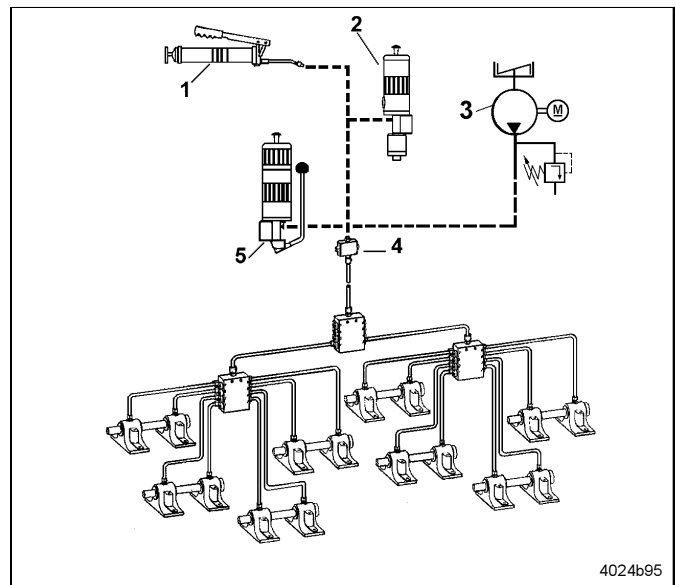

Fig. 13 Possible pump connections
- When they are used in connection with hand-operated pumps, pneumatic or electric pumps the progressive metering devices are a simple and low-cost centralized lubrication system (see Fig. 13).